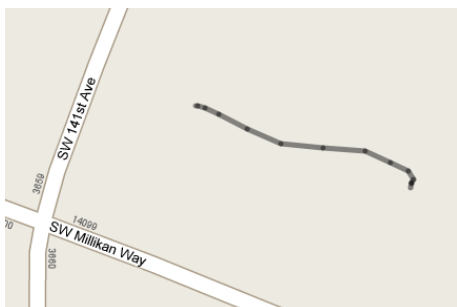

Figure 2 Acceleration data in Google Maps
3. The default data-collection mode is Time Based. See Figure 2 for sample results after mapping in Google™ Maps.
2. Mapping a line. Use this style for mapping a sensor column of data such as acceleration of a car in a parking lot as shown in Figure 2.